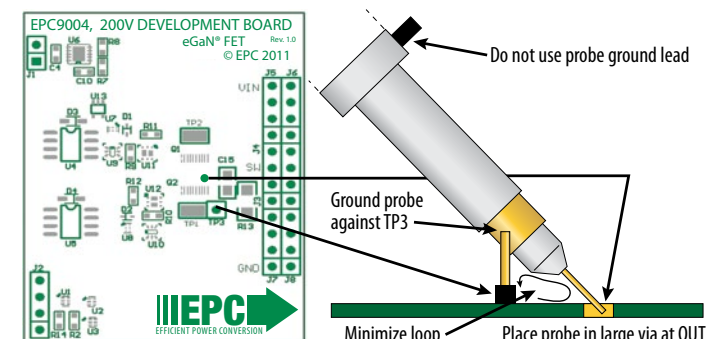

Figure 3: Proper Measurement of Switch Node – OUT
**NOTE.** When measuring the high frequency content switch node (OUT), care must be taken to avoid long ground leads. Measure the switch node (OUT) by placing the oscilloscope probe tip through the large via on the switch node (designed for this purpose) and grounding the probe directly across the GND terminals provided. See Figure 3 for proper scope probe technique.